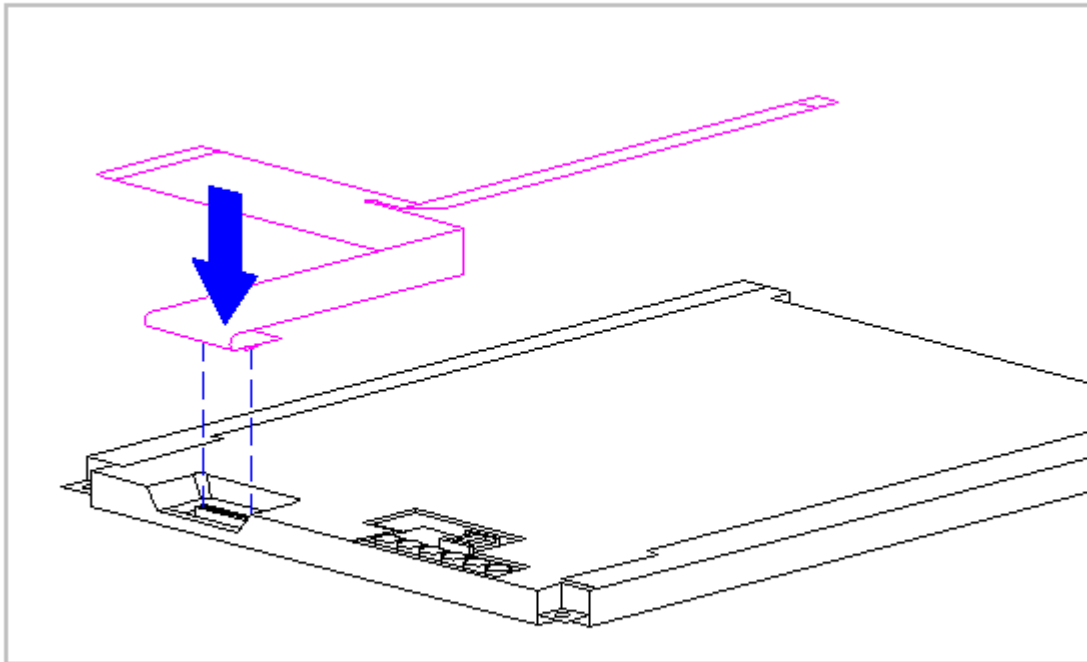

Figure 3-111. Replacing the Display Cable to the CSTN (9.5 inch) Panel (Models 400 and 410)
2. Connect the display cable to the connector on the back of the CSTN (9.5 inch) panel (Figure 3-111).